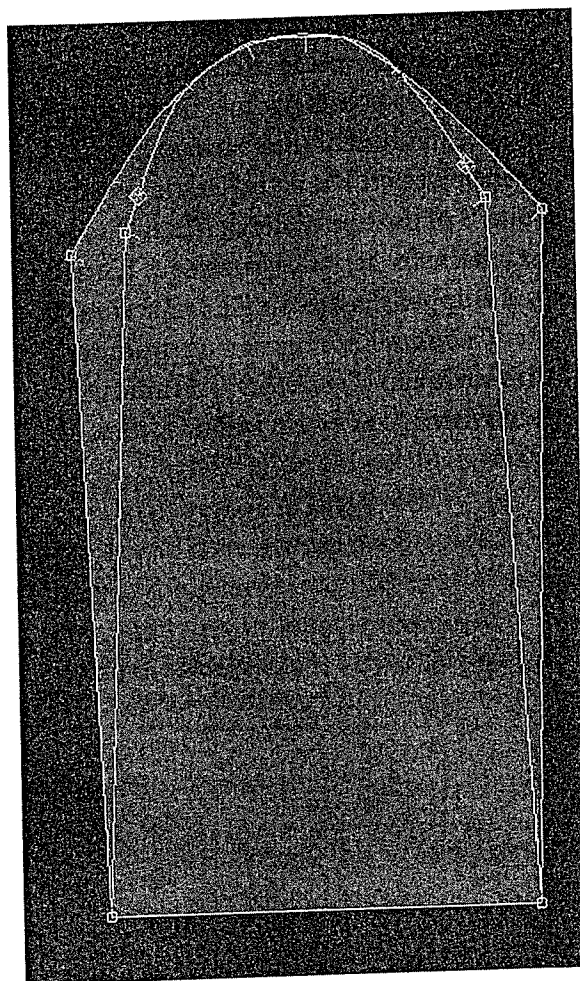
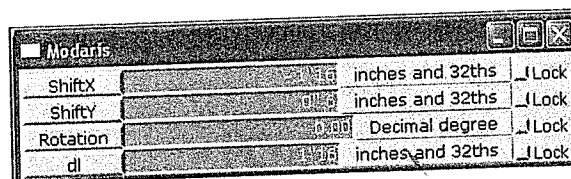

Figure 4.35 Lengthened center pieces with join points.
Figure 4.36 Move text box.
5. Select *F3>Line modification>Move*, click the cap/intersection point, and drag the point 1 1/2" or the amount of one-half the desired fullness. Click the second cap/intersection point and drag the point 1 1/2" or the amount of one-half the desired fullness (Figure 4.35). *Print* can help you see the change in the pattern piece. The *Move* text box can also be used to acquire the desired amount of fullness; type in the amount to add on the *d1* line or the total length on the *Length* line (Figure 4.36).